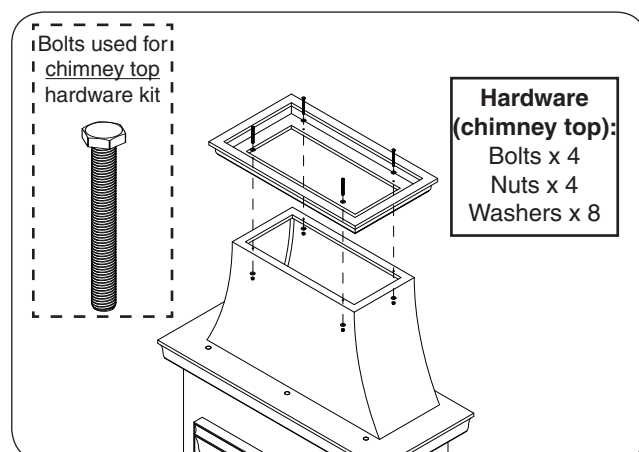

Fig. 18-2 Assemble chimney top (if applicable)
2. Place the chimney top piece (if applicable) on top of the chimney piece. Carefully align the pilot holes, and insert the hardware (chimney top hardware kits) in the order shown in Fig. 18-2. Hand tighten, then use two $\frac{1}{2}$ " open end wrenches (or equivalent) to fasten.